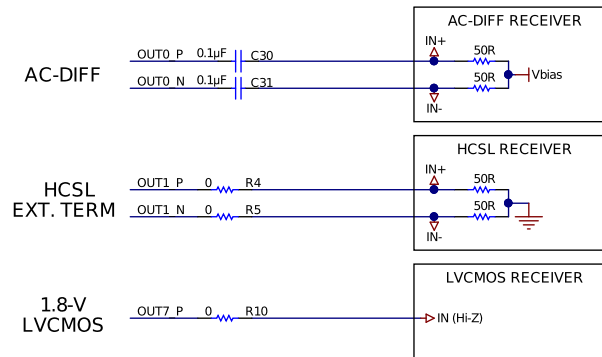

图 64. LMK05318 Reference Schematic Example
Figure 64 shows a reference schematic to help implement the LMK05318 and its peripheral circuitry. Power filtering examples are given for the core supply pins and independent output supply pins. Single-ended LVCMOS, AC-coupled differential, and HCSL clock interfacing examples are shown for the clock input and output pins. An external LVCMOS oscillator drives an AC-coupled voltage divider network as an example to interface the 3.3-V LVCMOS output to meet the input voltage swing specified for the XO input. The required external capacitors are placed close to the LMK05318 and are shown with the suggested values. External pullup and pulldown resistor options at the logic I/O pins set the default input states. The I²C or SPI pins and other logic I/O pins can be connected to a host device (not shown) to program and control the LMK05318 and monitor its status. This example assumes the device will start up from EEPROM mode with an I²C interface (HW_SW_CTRL = 0).
- For a 3.3-V LVCMOS driver, follow the OSC clock interface example in 图 64. Power the OSC from a low-noise LDO regulator or optimize its power filtering to avoid supply noise-induced jitter on the XO clock.
- Reference inputs: Follow the LVCMOS or differential clock input interface examples in 图 64 or Clock Input Interfacing and Termination.
- Clock output Interfacing: Follow the single-ended or differential clock output interface examples in 图 64 or Clock Output Interfacing and Termination.
- Power all the VDD pins with proper supply decoupling and bypassing connect as shown in 图 64.